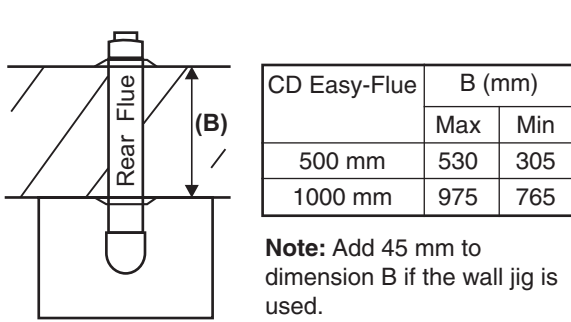

Fig. 4.5
4.6 FIT THE FLUE - Figs. 4.5 and 4.6
- When the flue length required is more than the maximum stated in Section 4.6, paragraph 1, refer to the table below and Figs 4.5 and 4.6.